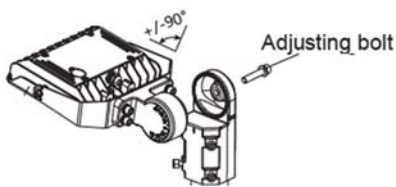

Figure 4
- 3: Remove angle adjustment screw from Adjustable Slipfitter Arm. (Figure 4)